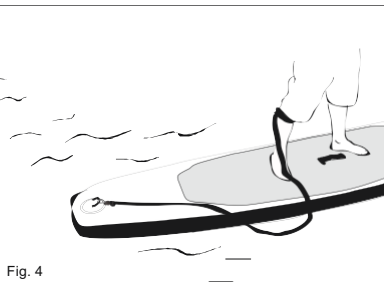

Fig. 4
6. Attach the safety rope to the tow ring (Table 1 pos.5), and place the belt around your ankle (Fig.4)